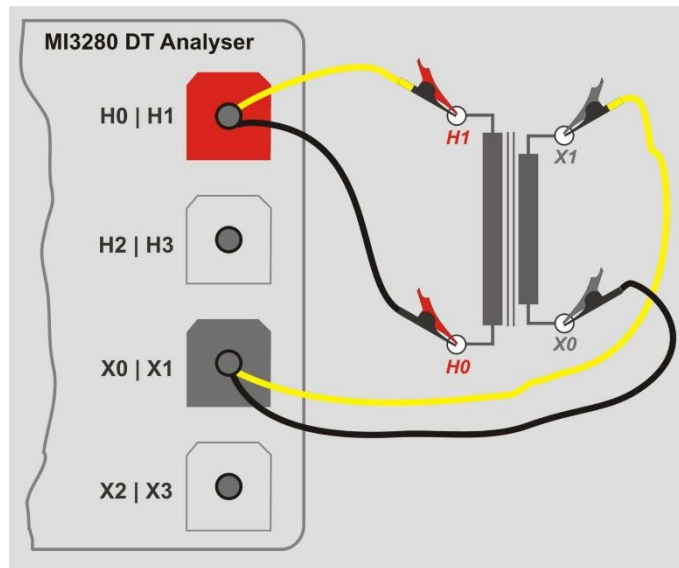

Figure 11.7: Single-phase VT or PT transformer turn ratio measurement connection
To measure single-phase voltage or power transformer (VT or PT) you need to connect H1|H0 connector (red terminal: black and yellow wires) and X1|H0 connector (grey terminal; black and yellow wires) to appropriate MI 3280 socket as shown in *Figure 11.7*.
- Connect VT or PT transformer like shown in *Figure 11.7*.